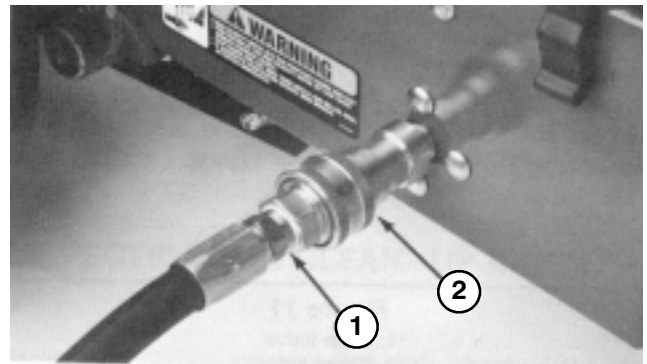

Figure 9
3. Connect hose adapter (Fig. 9) to garden hose, then connect adapter to quick coupler on side of machine.